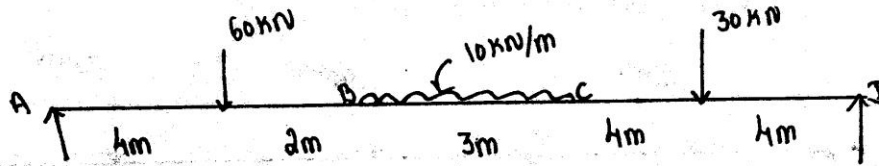

Figure-5
5. Analyse the continuous beam shown in figure -5 by flexibility method.  $EI = \text{constant}$ . (15)